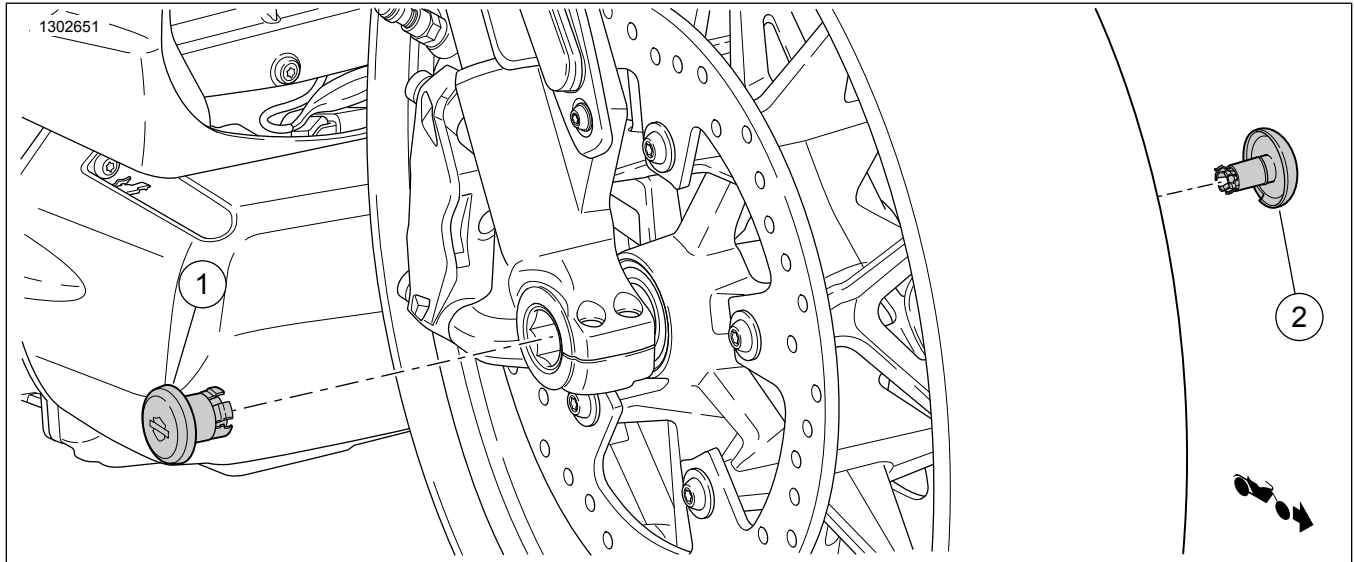

Figure 1. Kit Contents: Axle Covers
1. Figure 1 Open Original Equipment (OE) axle covers (1,2).
1. Figure 1 Install **new** right (hex) side axle cover (1).
2. Figure 1 Install **new** left (circular) side axle cover (2).